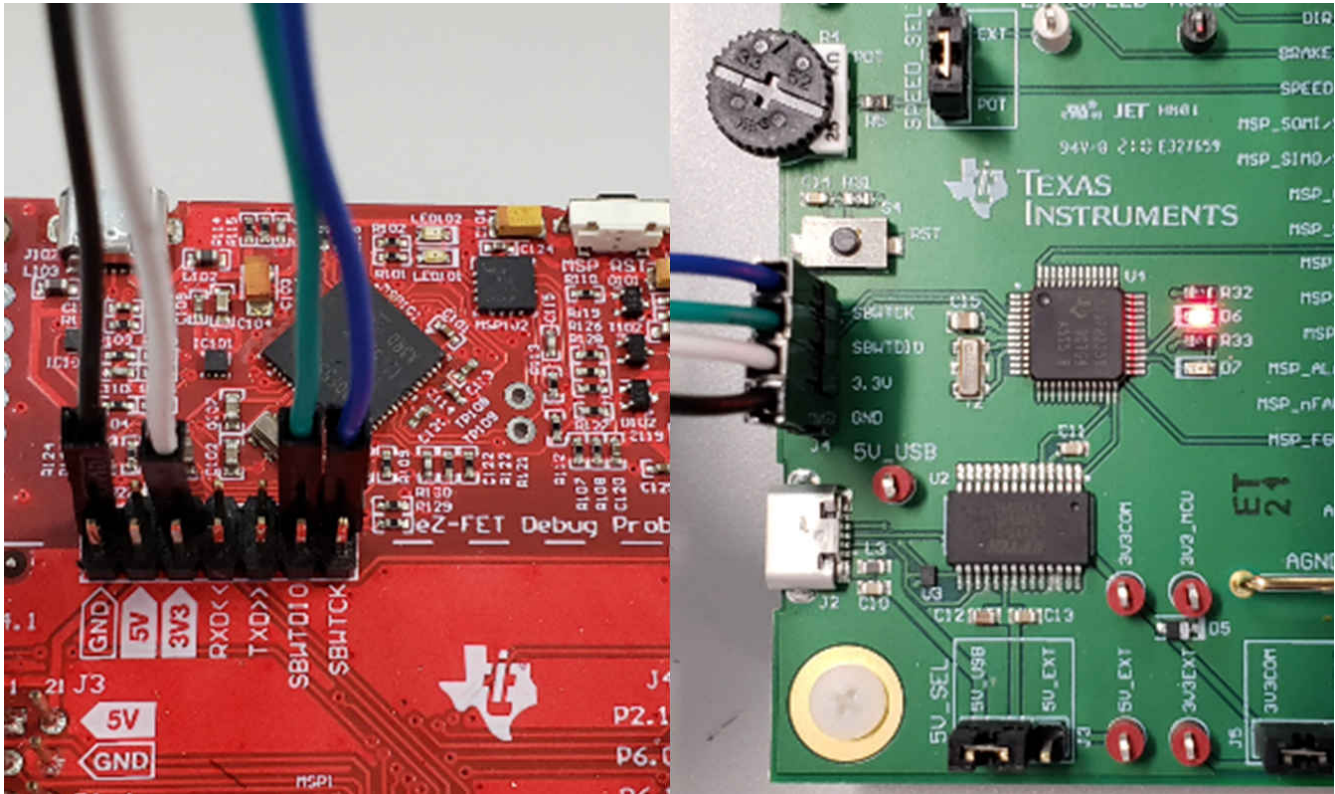

Figure 7-2. MSP430 LaunchPad™ eZ-FET Probe Connected to MCT8316AEVM
2. Connect the top pins on the eZ-FET side of the LaunchPad of the GND, 3V3, SBWTCK, and SBWTDIO signals to their respective pins on J4 of the MCT8316AEVM as shown in Table 7-1 and Figure 7-2.